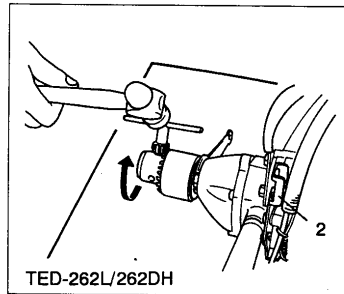

Fig. 2-6B
- To loosen the chuck, set the spanner on the other side and hit the chuck handle from this side to screw out (counterclockwise), the chuck with the lock lever on. (TED-262L/262DH) (Fig. 2-6B)